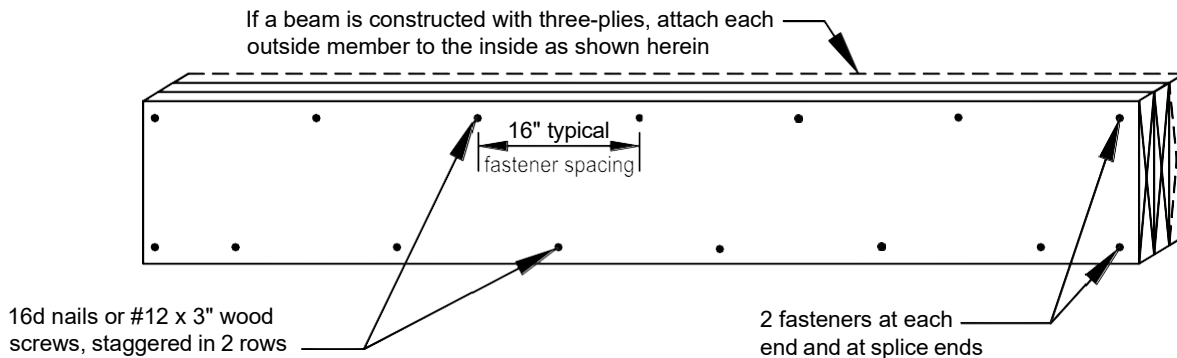

FIGURE 6: BEAM ASSEMBLY
- The plies of the beam shall be assembled in accordance with FIGURE 6.